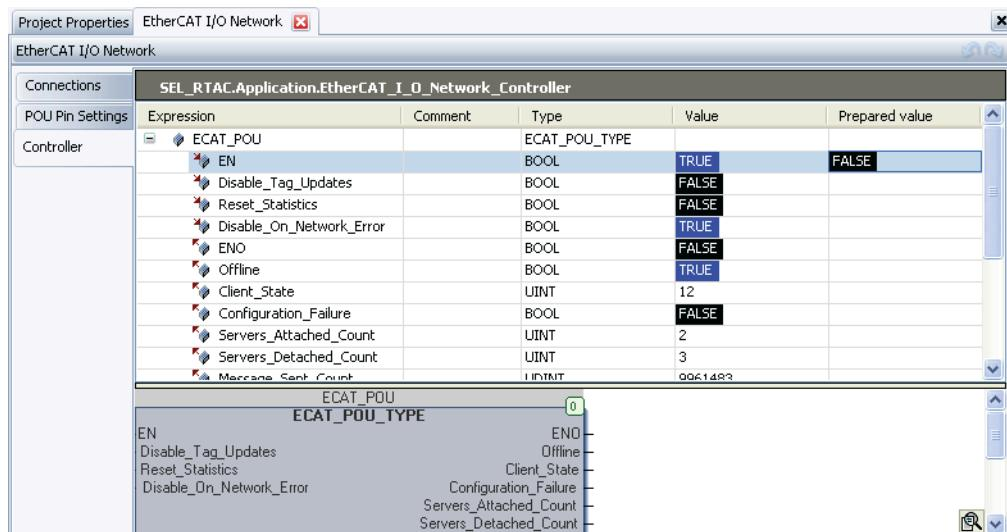

Figure 2.24 Manually Enabling the EtherCAT Network
- Step 9. Navigate to the **Controller** tab within the editor. As *Figure 2.24* shows, enter a **Prepared value** of **FALSE** for the **EN** (enable) pin for the EtherCAT POU. In the **Home** ribbon, select **Tools** and select **Force Values** (press **<F6>** on your keyboard as a shortcut).